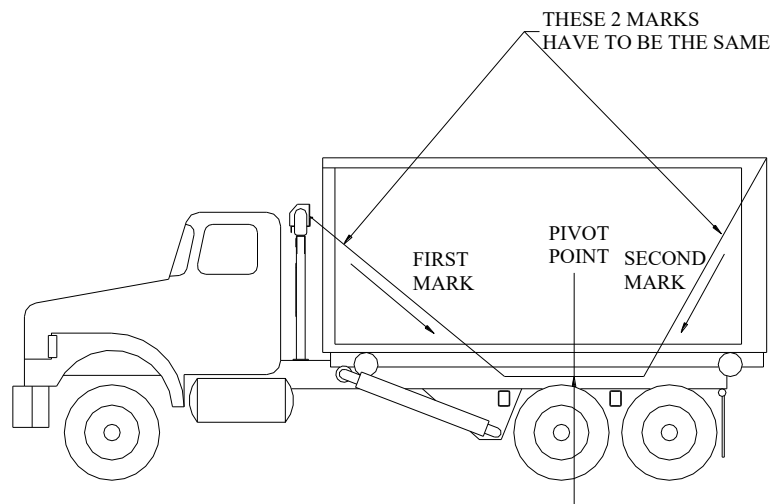

Fig. 1
- 3) Measure from the first mark to the second mark, divide that measurement in half and make a mark. This is where the mount needs to be centered. (Refer to **Fig. 1**)